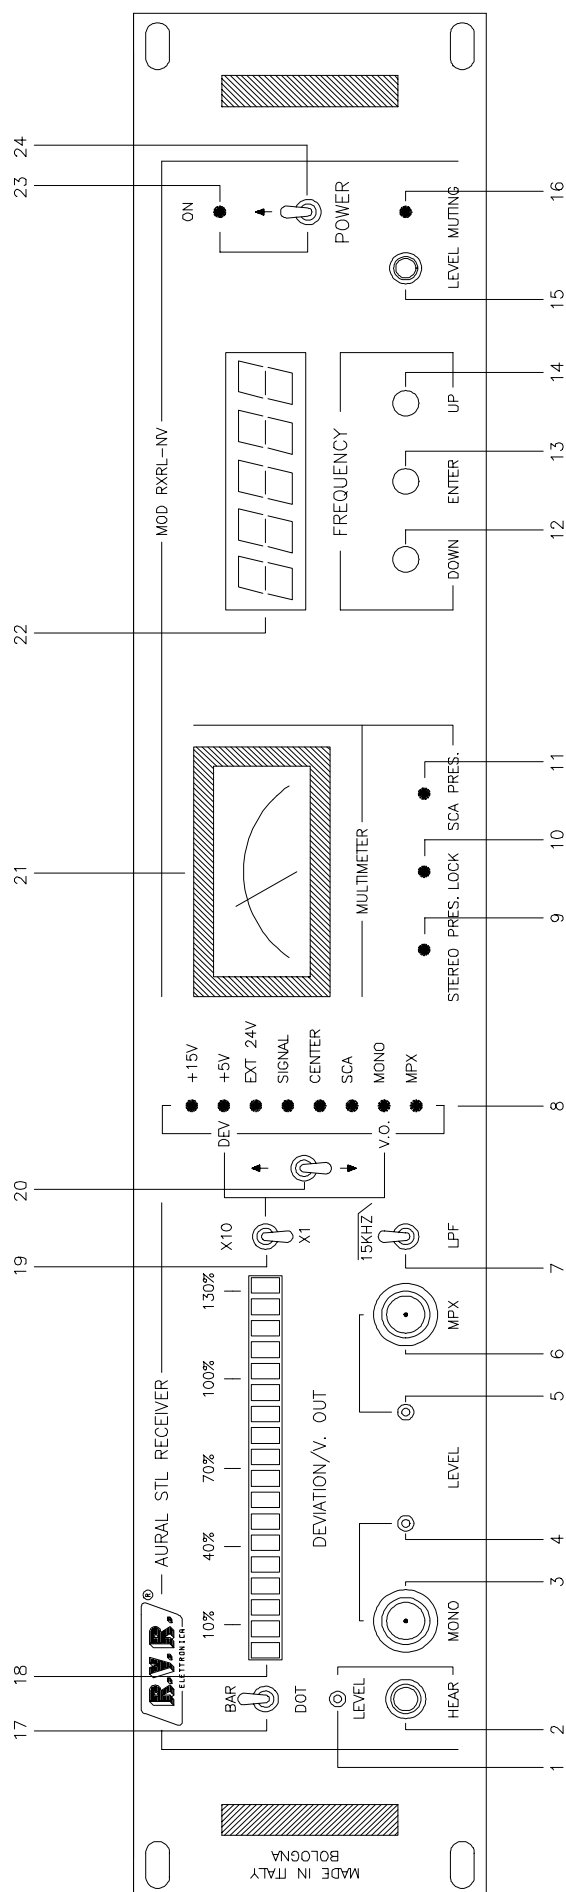

FIG. 1
The parameters are selected by a lever switch (20 Fig.1) and the selection is indicated by the legend of the green led (8 Fig.1).
This card is mounted on the right side of the front panel and allows adjustment of the receiver's muting threshold (= -83 dBm of default) and displays the muting status with a led (16 Fig.1).
FRONT PANEL VIEW DESCRIPTION (FIG.1)
- 3) Switch the power switch (24 Fig.1) to the OFF position.
- 5) Switch the power switch to the ON position and check that the green POWER ON led (23 Fig.1), and the green led corresponding to the parameter selection SIGNAL (8 Fig.1), are both lit.
After a few seconds the frequency display (22 Fig.1) will come on and display a number (eg. 1750.00) corresponding to the last operating frequency to have been programmed.
that the oscillator has locked to the operating frequency displayed. The display has five digits, 4 before the decimal point representing (from left to right) thousands of MHz, hundreds of MHz, tens of MHz and MHz; and 1 after the decimal point representing hundreds of KHz. To change this number, use the UP (14 Fig.1) and DOWN (12 Fig.1) buttons to respectively increase it and decrease it.
Once the desired frequency has been found, press ENTER (13 Fig.1) to confirm and save it.
- 6) Connect an audio analyzer to the MONO (3 Fig.1) or MPX outputs (6 Fig.1).
Modulate the carrier with a 400Hz tone at a deviation of $\pm 100\text{KHz}$. Check that the analog meter (21 Fig.1) displays a reading of 1mV.
- 7) Select CENTER with the selector (20 Fig.1) and check that the received signal is centered.
Set the modulation display gain (20 Fig.1) to 130% f.s.d.
Connect an audio analyzer to the MONO output (3 Fig.1).
Check that the bar-graph display (18 Fig.1) lights up to the first
9) Connect an audio analyzer to the STEREO output (6 Fig.1).
10) Inject a signal with a level of -83dBm and adjust the MUTING trimmer R2 (15 Fig.1) until the red muting led switches on.